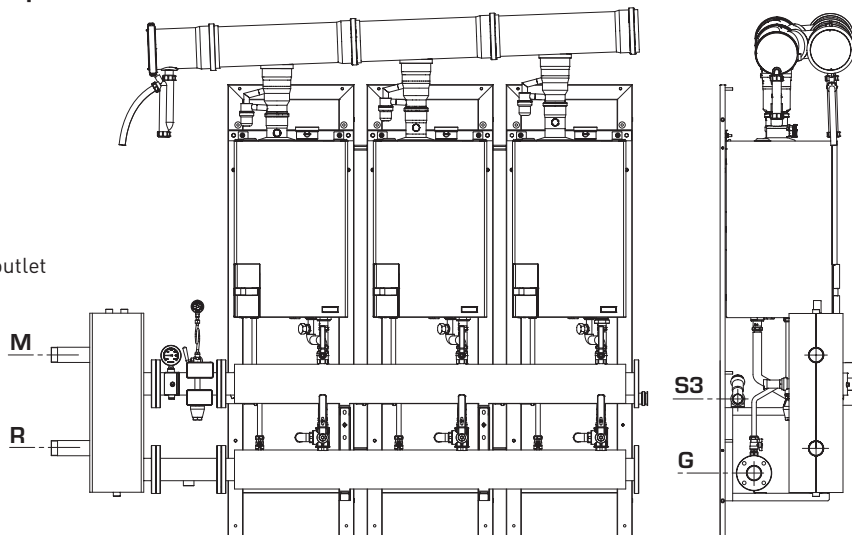

Fig. 4
2.2.1 Single boiler (fig. 4)
2.2.2 Sequence/cascade boilers (fig. 4)